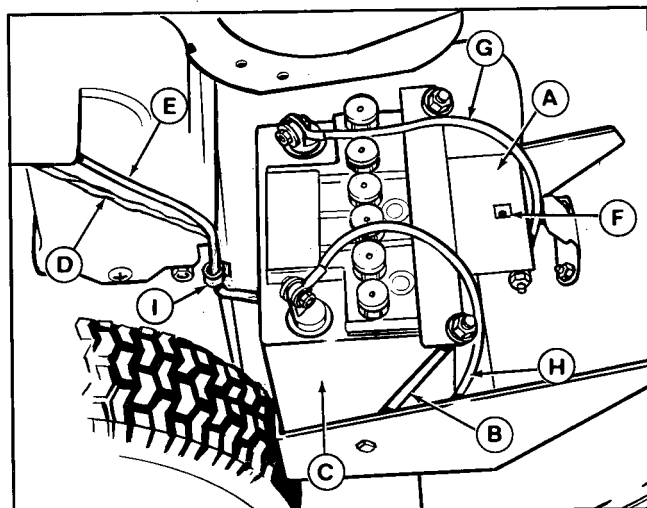

Figure 7. Battery Installed
15. Secure the wiring harness in the clip (I, figure 7) and insert the clip into slot in snowthrower housing.
16. Connect the other end of the cable (E, figure 7) to the starter motor (AA, figure 1). Be sure the boot (AB) is in place over in the terminals.
17. Make sure the retaining nut (F, figure 7) is securely positioned in the hole in the battery clamp.
18. Hook the J-hooks (B, figure 7) into the holes in each side of the battery box. Place the battery in the box with the positive post on the solenoid side.
19. Position the battery clamp (A, figure 7) onto the J-hooks and battery as shown. Install a 1/4" washer, lockwasher and nut on each J-hook to secure the clamp (A).